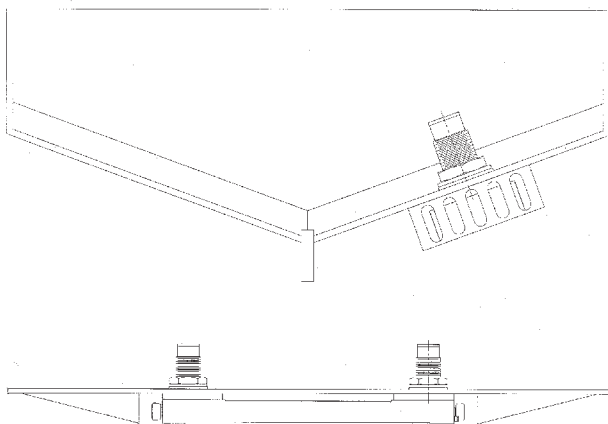

FIG. 1 External type installation with E1 SERIES™ end-mounted zinc anodes using fairing blocks for protection and streamlining.
- 1.1.2 Always install the unit parallel, not transverse, to the skeg or keel. See Figures 1 & 2.
1.6.5 If side plates and fairing blocks are used, make sure that the side plates are scalloped (notched) out so they will not entrap water. Fairing blocks are most effective when installed with a 4 to 1 slope. See Figures 1 & 6.